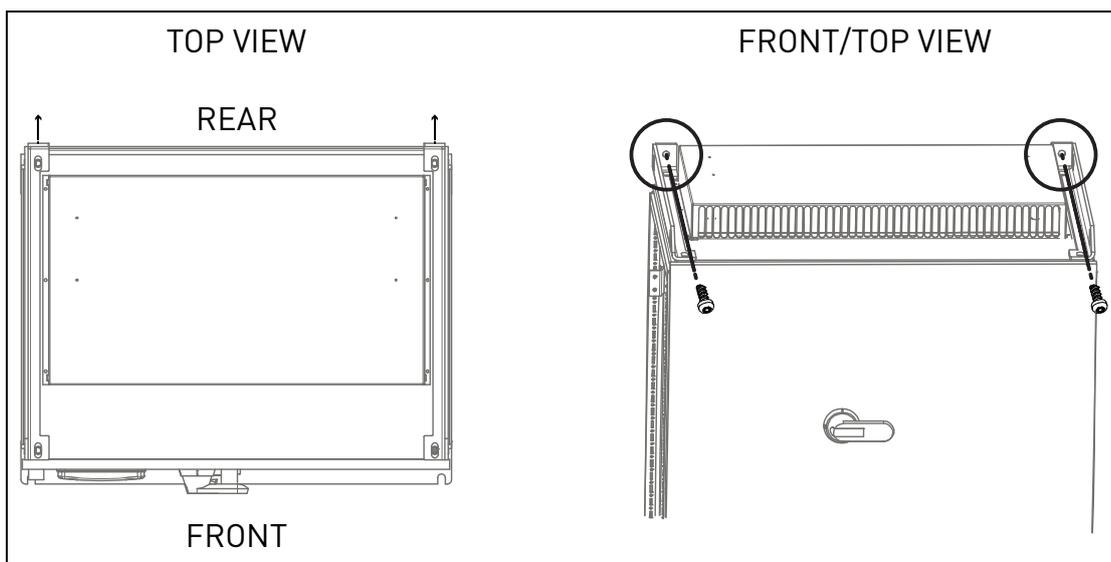

Figure 4-6.
3. Use the fixing points at the top rear side of the cabinet to bolt it to the back wall. See Figure 4-6.